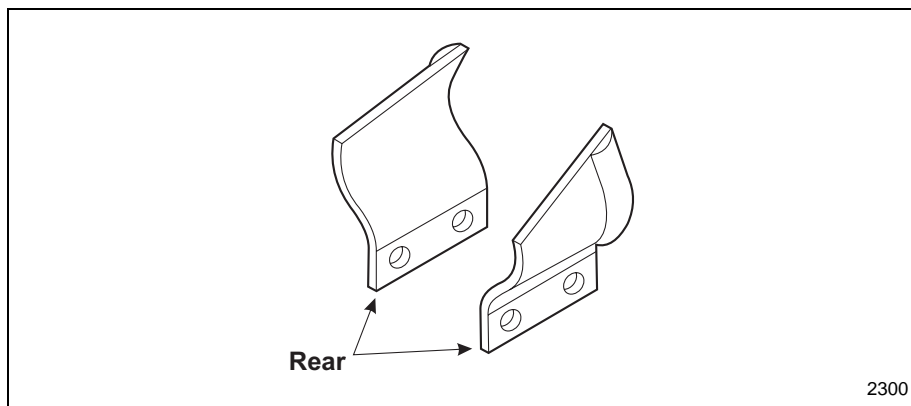

Figure 4–23 Tooth Direction
- Make sure to orient the tooth in the proper direction. **Figure 4–23** shows the rear of the tooth. If the tooth is installed backwards, the trencher chain will not work properly.